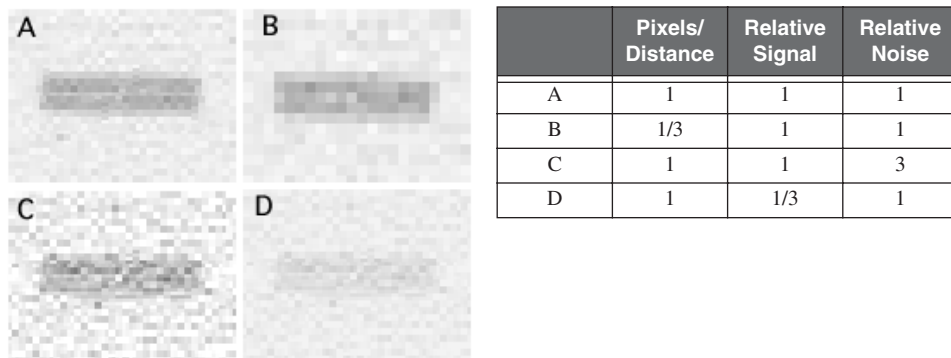

Figure 2. Resolution depends upon spatial and dynamic range variables.
A relevant example of image resolution is displayed in Figure 2, in which two bands are perceived as being nearly “resolved” in the upper left panel (A). If the image is manipulated to reduce the spatial resolution ($1/3$ pixels/distance (B)), or alternatively manipulated to reduce the signal resolution (3X noise) (C) and ($1/3$ signal (D)), the resolution of the bands is obscured. Hence, image resolution depends on both spatial and dynamic range considerations.